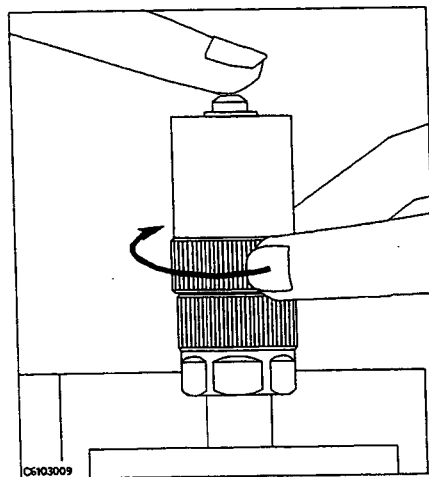

Figure 4-7.
5. Connect the 0 S termination to the APC-7[®] connector as shown in Figure 4-7.